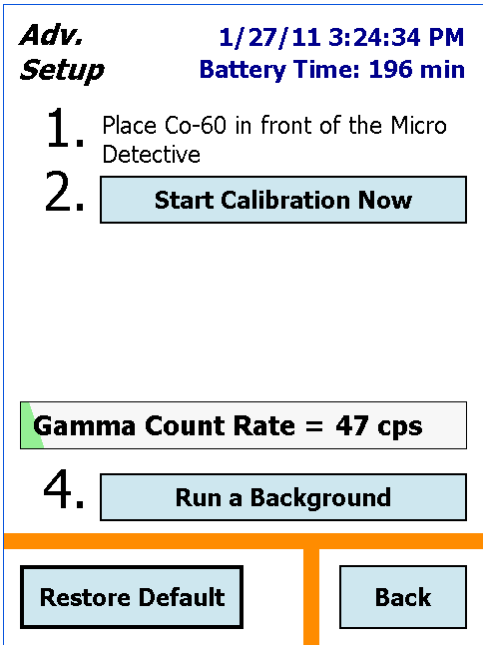

Figure 21. Run a New Background.
- The final step is to take a representative background measurement. Figure 21 shows the final calibration screen. Remove the calibration source, tap the **Run a Background** button, then refer to Section 2.12 below.